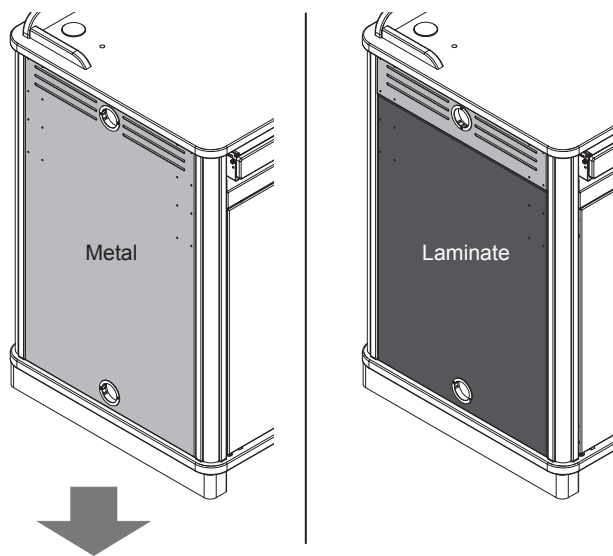

Figure 7A
- Type of side panels your lectern has (metal or laminate) **Figure 7A**